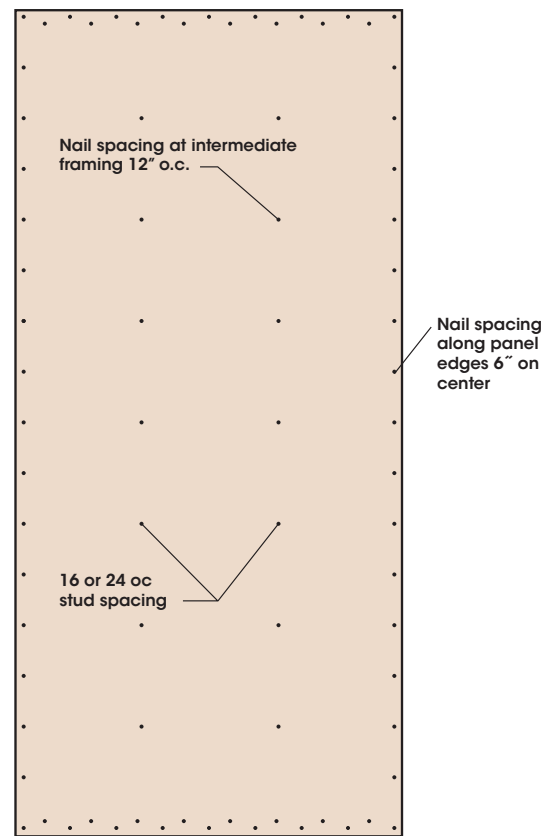

Figure 5: Fastening Edges and Field
- Space 8d fasteners a minimum of 6" along the panel edges and ends, and a minimum of 12" along the supports in the field of the panel (See Figure 5). Larger and/or additional fasteners will increase the capacity of the wall to resist shear and uplift forces. Consult the APA Construction Guide or System Reports (referenced above) to determine the appropriate fastener schedule to achieve the desired wall performance. Local building codes may dictate a specific fastener schedule.